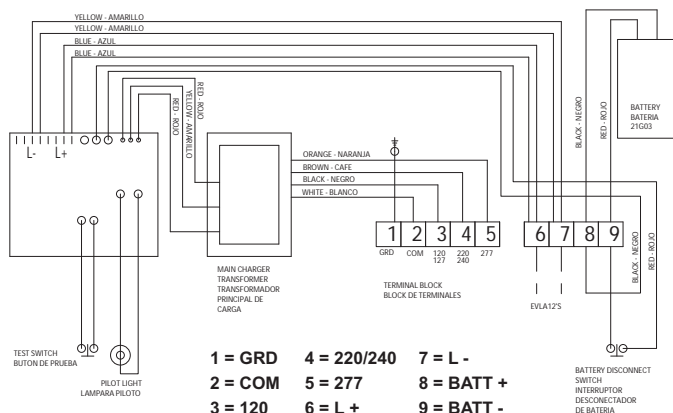

Figure 7. Wiring Diagram
9. Make all incoming wiring connections following the wiring diagram located in the new assembly (also see Figure 7) and re-connect the EVLA12 light fixture(s) or EXIT sign wire leads removed in STEP 5